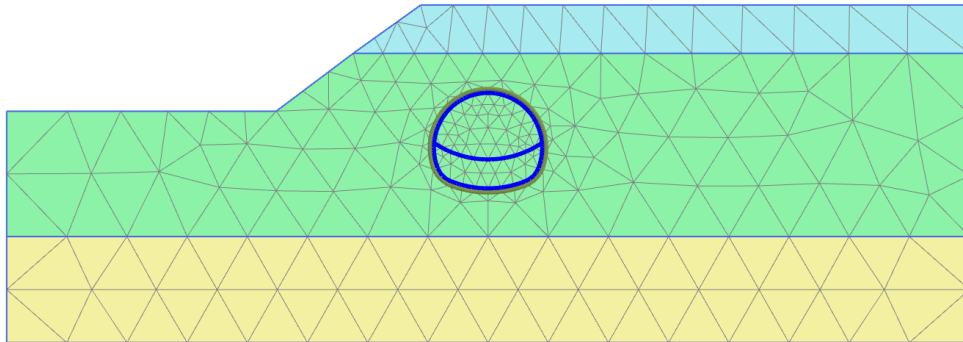

Figure 6–6: The generated mesh
- 3 Click the **View mesh** button  to view the mesh as shown in Figure 6–6 \(p. 116\).